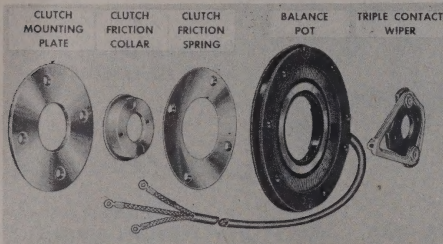

Fig. 74—Balance Pot assembly, exploded view
4. The balance pot resistance element (R13) consists of nichrome wire wound around a flat bakelite ring, which, in turn, is clamped against a flat bakelite block. Mounted on this same block is a flat metal collector ring which eliminates the necessity of having a flexible lead wire to the wiper blade (Fig. 74).
6. The contact points of the wiper blades are set at a slight angle so they will produce a wiping, self-cleaning action as they traverse the nichrome wire winding. The complete wiper assembly is fastened to the cable drum by means of a friction clutch assembly, shown in Fig. 74, which facilitates centering the wiper at the electrical center of the pot when installing the Servo Unit.